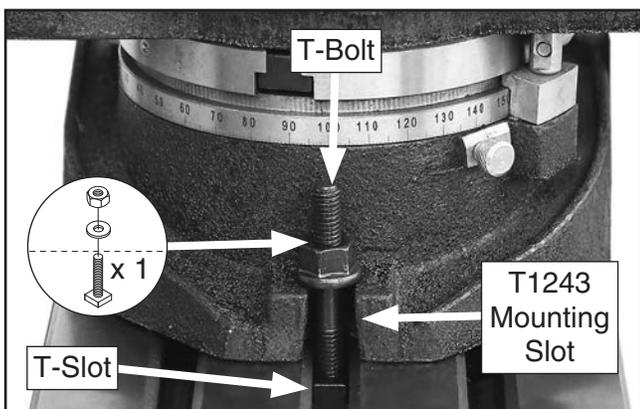

Figure 11. Initial horizontal mounting of T1243.
3. Insert (1) T-bolt in T-slot of milling machine table, then align T-bolt with T1243 mounting slot, as shown in **Figure 11**. Attach (1) 10mm flat washer and (1) M10-1.5 hex nut finger-tight.